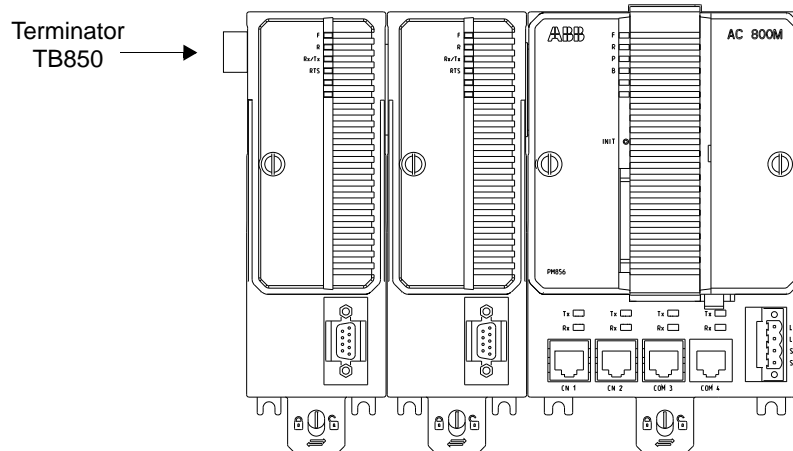
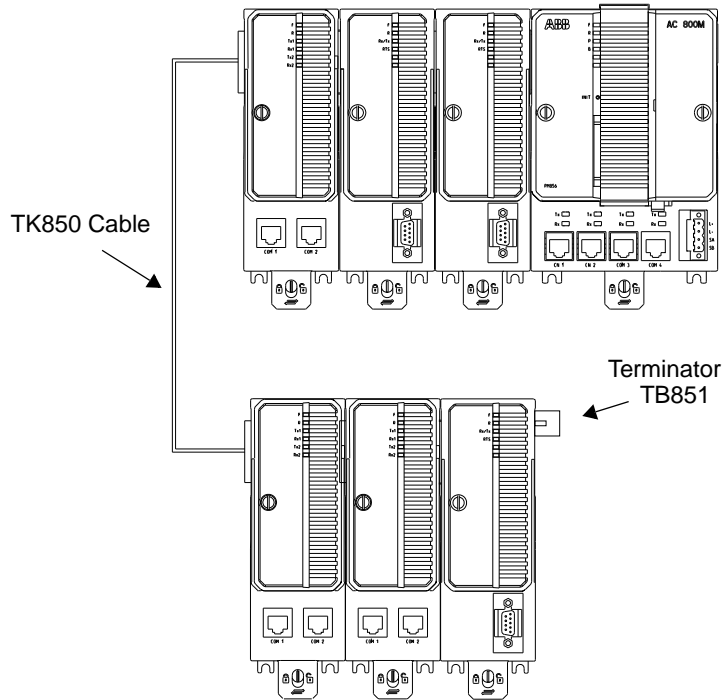
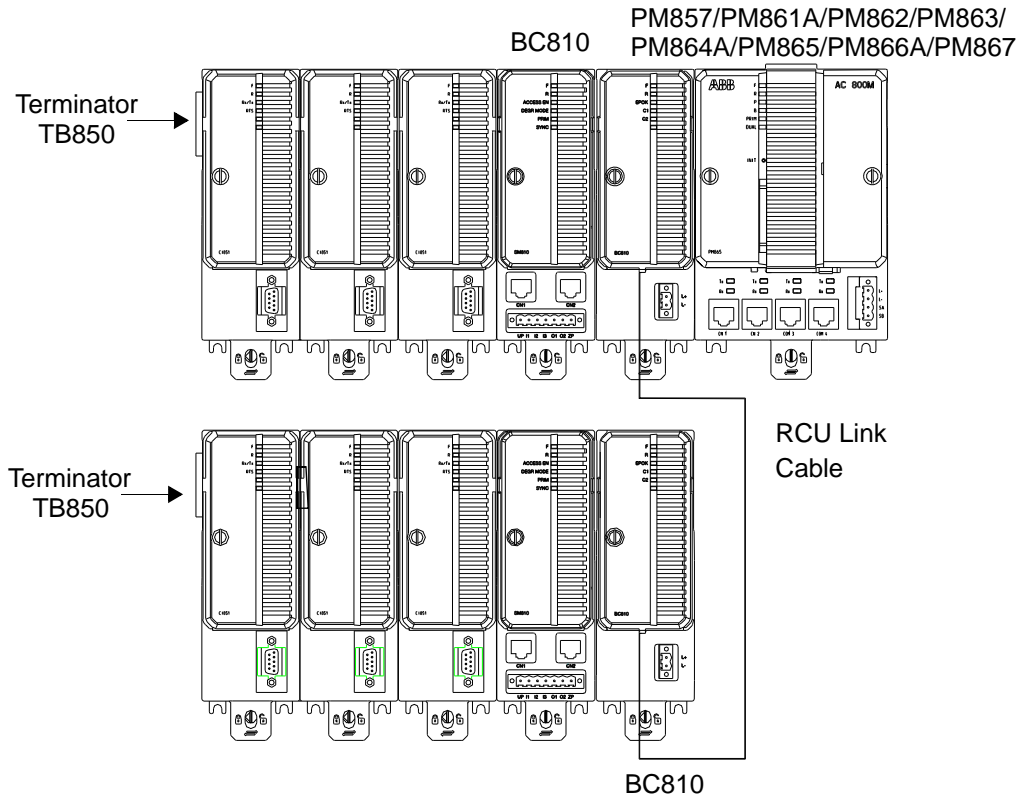

Figure 2.10: TB850 Terminator for CEX-Bus (male)
Figure 2.11: TB851 Terminator for CEX-Bus (female)
Figure 2.12: CEX-Bus Terminator when using BC810/BC820
- a. For CEX-Bus TB850 (TB851 if cable TK850 is used), see Figure 2.10 on page 81 and Figure 2.11 on page 82. When using BC810/BC820, see Figure 2.12 on page 83. If no units are used on the CEX-Bus, no bus termination is required.